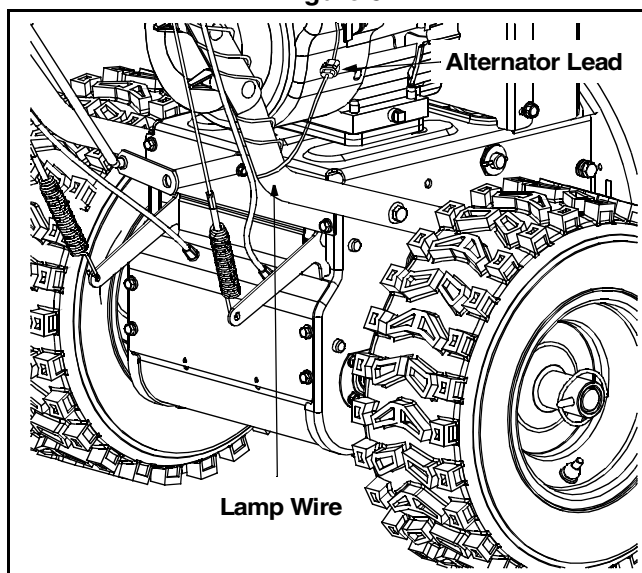

Figure 6
- Unwrap the headlight wire which is attached to the headlights, beneath the handle panel. Wind the wire around the lower right handle until excess slack is removed. See Figure 6.
- Plug the wire from the headlight into the alternator lead located on the right side of the engine, beneath the fuel tank. See Figure 6.